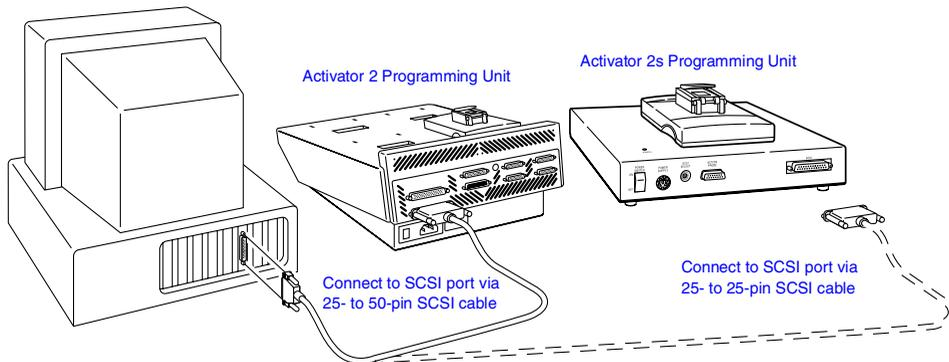

Figure 2-1. Activator 2 and 2s PC Connections
- 4. Connect the Activator to the PC using the supplied cable.** Connect one end of the cable to the SCSI connector on the Activator rear panel (you can use either connector on the Activator 2) and tighten the locking screws. Connect the other end of the cable to the 1505A card in the PC and tighten the locking screws. The Activator is terminated internally and must be the last device on the SCSI chain. See Figure 2-1 for the location of the SCSI connectors.